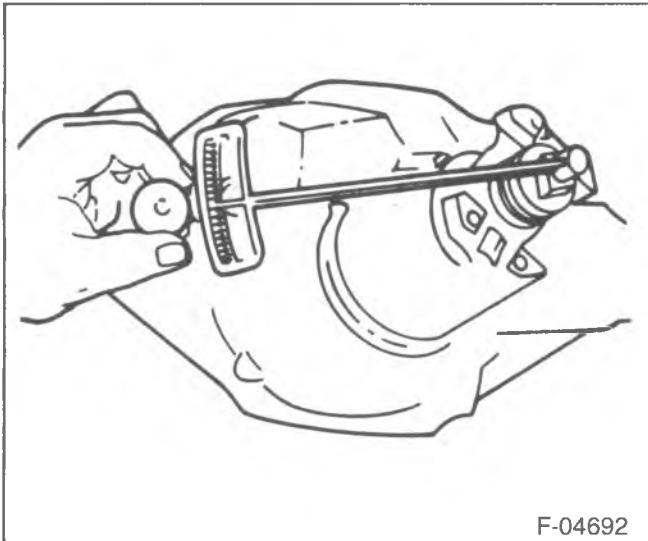

Figure 33—Checking Pinion Bearing Preload
- Remove J-8614-01. Using an inch-pound torque wrench, check the pinion preload by rotating the pinion with the wrench. Preload should be at or below 2.3 to 2.8 N·m (20 to 25 in. lbs.) on new bearings, or 1.1 to 1.7 N·m (10 to 15 in. lbs.) for used bearings (figure 33).